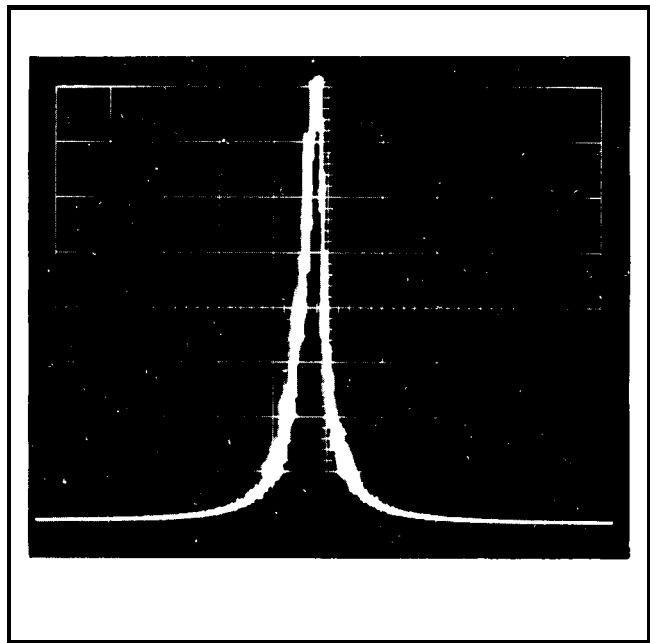

Fig. 6-37. Typical display showing incidental frequency modulation,
- f. Check the display frequency modulation (see Fig. 6-37). Must not exceed 1 minor division ( $\leq 200$  Hz).